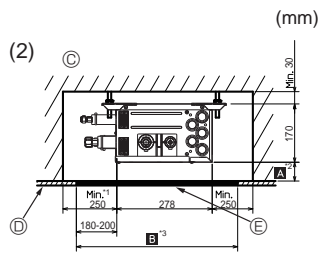
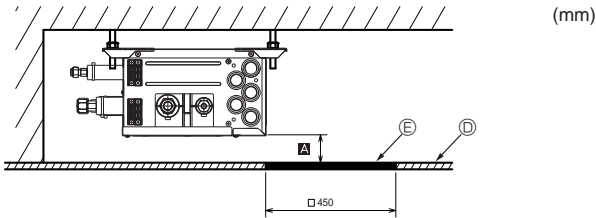
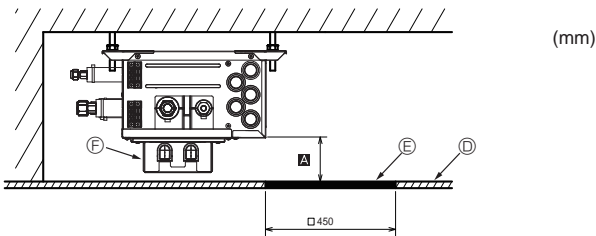

Fig. 4-7
Fig. 4-8
Fig. 4-9
- (2) Side View (Fig. 4-7, Fig. 4-8, Fig. 4-9)
To install the optional Reactor Box, set **A** to Min. 270 mm <recommendation> (Fig. 4-9).
In the case of "□ 450 mm", prepare a maintenance hole at a PCB side (as it is shown in Fig. 4-8, Fig. 4-9), and "Min. 300 mm" is needed as distance **A**.